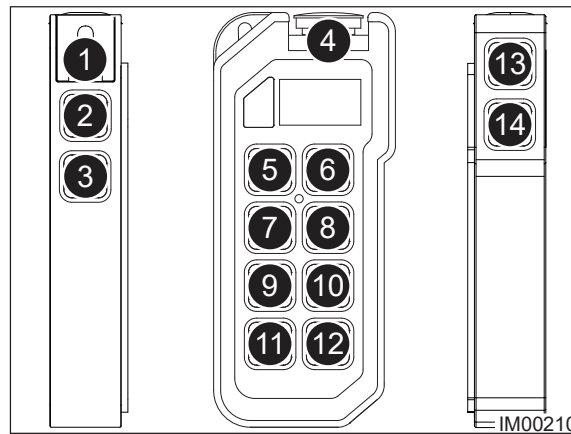
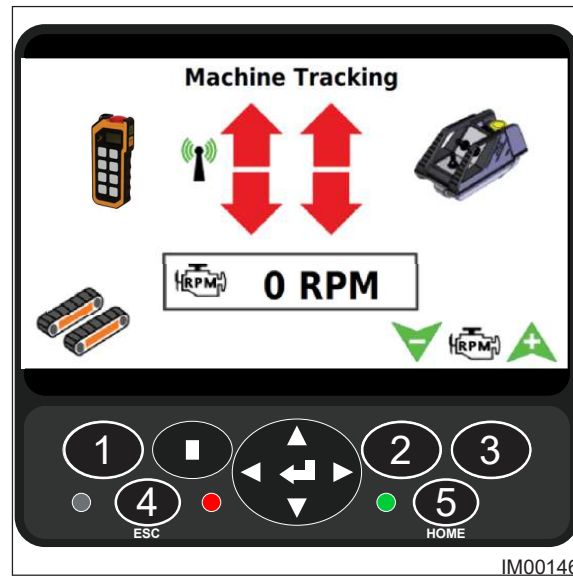

Fig: 6.8 - Radio Remote Handset
Fig: 6.11 - Track Screen
4. Familiarise with the operation of the radio remote handset (Fig: 6.8), direction of travel, and safe tracking instructions prior to attempting to maneuver this machine.
8. On the radio remote handset, place Mode Switch to the right, Track position (Item 1, Fig: 6.8).
9. Turn on the radio remote control by pressing the Green Activate Handset button (Item 13, Fig: 6.8).
- ◇ The control panel identifies the handset is connected and the Track Screen displays (Fig: 6.11).
10. Press the Tracks Enable button on the remote handset (Item 12, Fig: 6.8) or on the control panel (Item 1, Fig: 6.11).
- ◇ *The Track Symbol above the button (Item 1, Fig: 6.11) will flash orange and the siren will sound to indicate tracking is about to start. After the warning delay the track symbol will change to green and user can maneuver the machine. The siren will continue to sound when tracking is enabled.*
12. Pressing the Red Stop button (Item 4, Fig: 6.8), stops the engine.
- Push the Power Off button (Item 13, Fig: 6.8) on the Remote Handset.
- Press the Tracks Disable button (Item 1, Fig: 6.11) on the display screen.
- Place the Toggle Switch (Item 1, Fig: 6.8) to the Off position.
- Switch off the Remote Handset by pressing the Red Stop button (Item 4, Fig: 6.8).
(1) Radio Remote Handset - Direction Of Travel